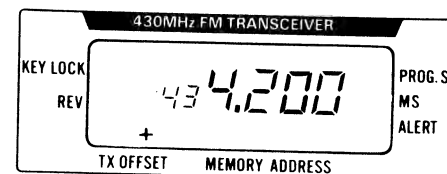

Fig. 4-5-1
- A) Press **[4]** **[2]** **[0]** **[0]** **[F]** **[3]** and the display will show as in Fig. 4-5-1.